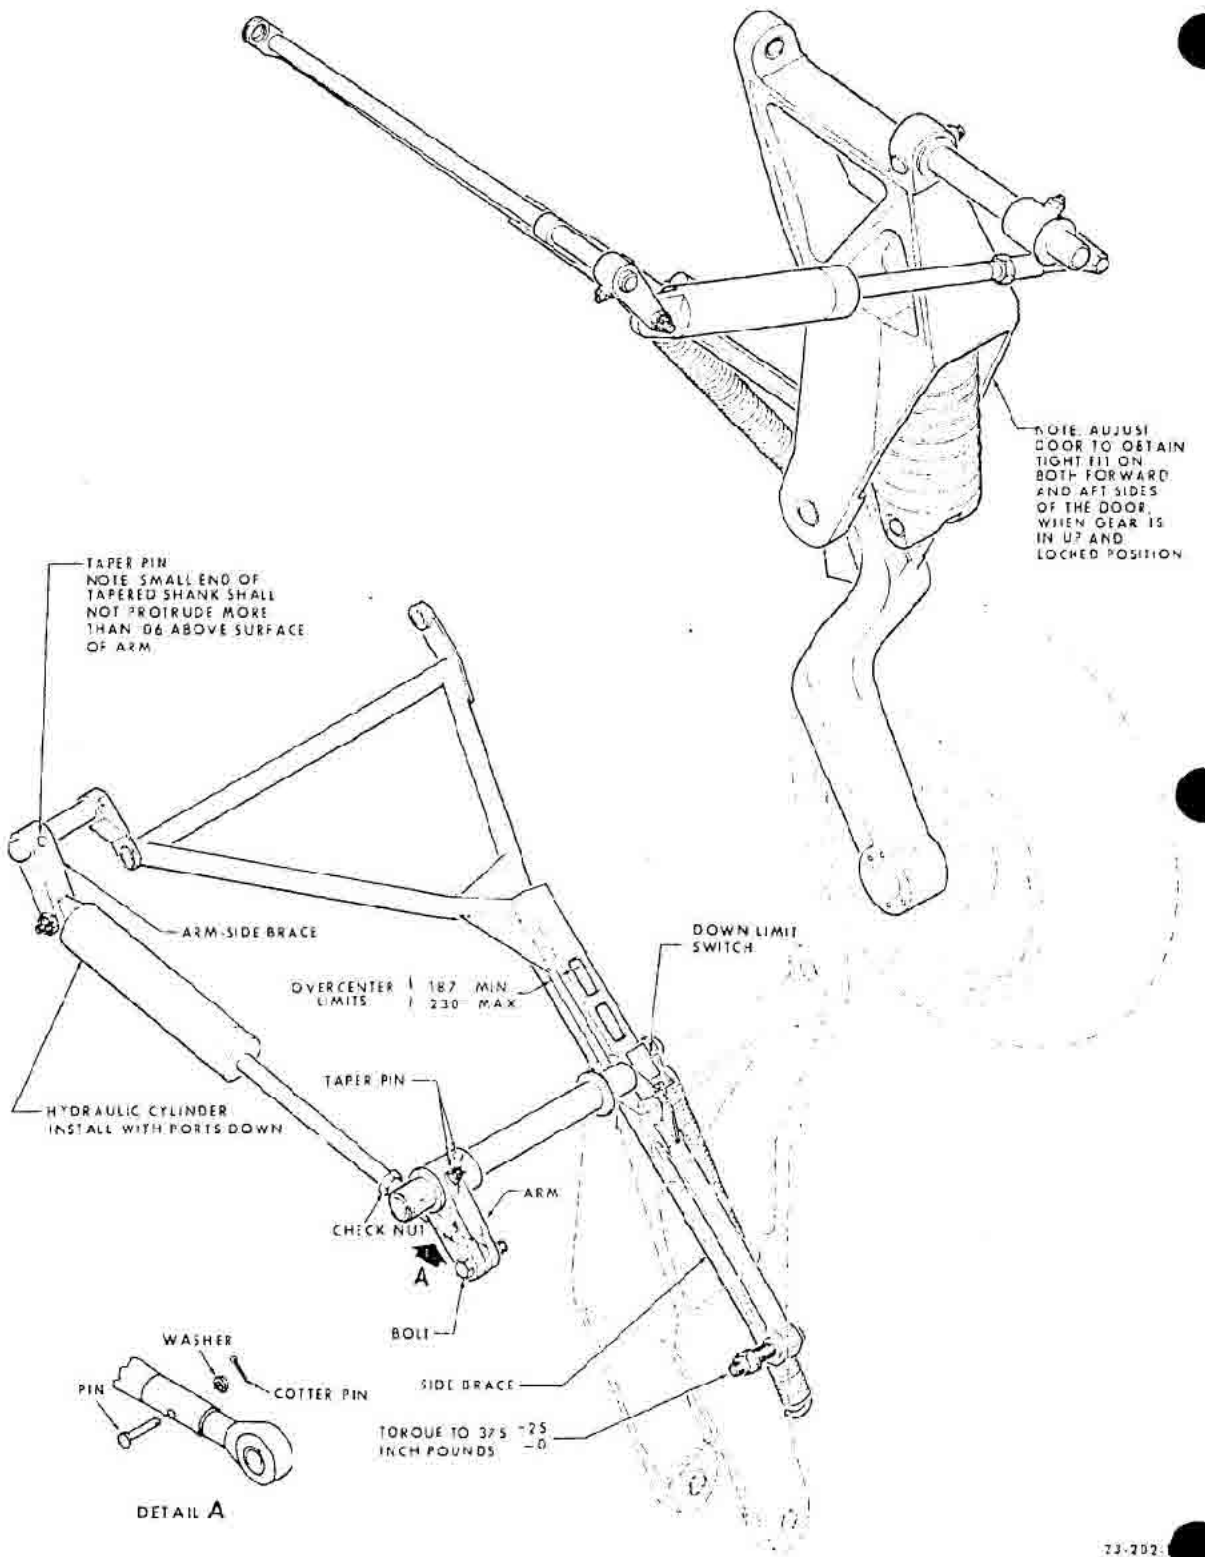

Figure 3-26. Main Landing Gear
h. Installation of the gear may be accomplished in the reverse order of the removal procedure, however observe the rigging instructions for the hydraulic cylinder in Figure 3-26 before operating the landing gear, then a full retraction, extension and emergency extension check should be accomplished.
(Figures 3-26 and 3-27)
h. With the gear in the extended position, apply a load perpendicular to the articulating joint of the main gear side brace. The side brace should break from the fully locked position at a pressure of 20 - 32 pounds. See Figure 3-26 for the over center position of the side brace when the main gear is extended.